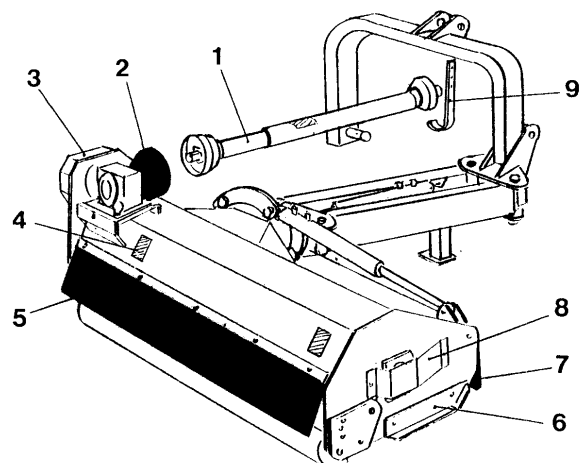

FIG. 7
3.5 List of Guards fitted to the Shredder (FIG. 7)